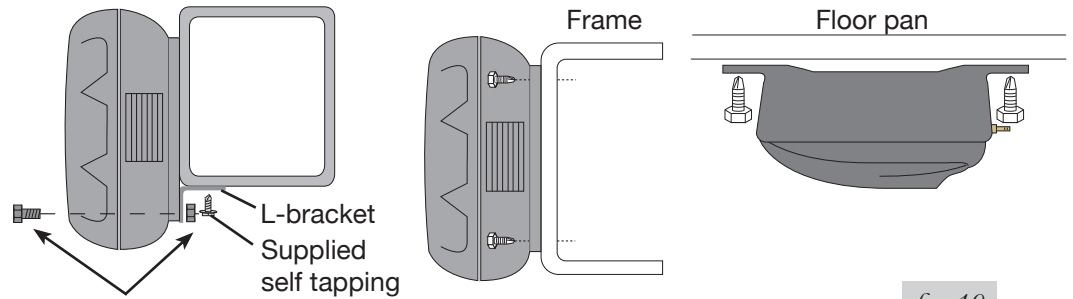

fig. 10
- a. Hold the compressor in the recommended location (fig. 10 or 11).
- b. For box frames: In some cases the frame section will not be wide enough to mount the compressor legs flat to the rail. Refer to figs. 10 and 11 in this situation.